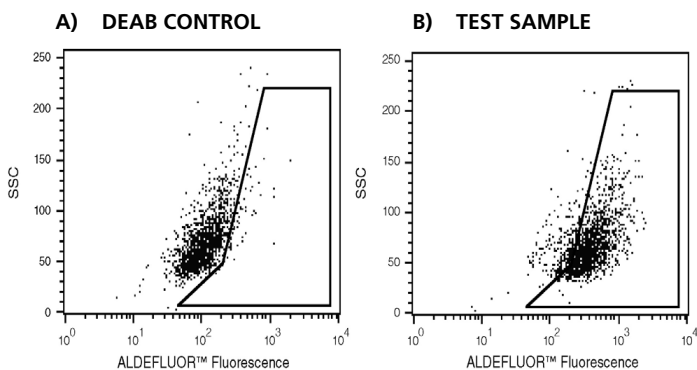

FIGURE 4. ALDEFLUOR™ FLUORESCENCE VS. SSC DOT PLOT OF SKBR3 CELL LINE STAINED WITH ALDEFLUOR™.
7. The ALDH^{br} population within human blood and bone marrow typically demonstrates low side scatter as shown in Figure 3B. ALDH^{br} cells in non-hematopoietic cells, such as breast cancer cell lines or primary mammary cells have different SSC properties and the gate will have to be set accordingly (see Figures 4 and 5 for sample plots).